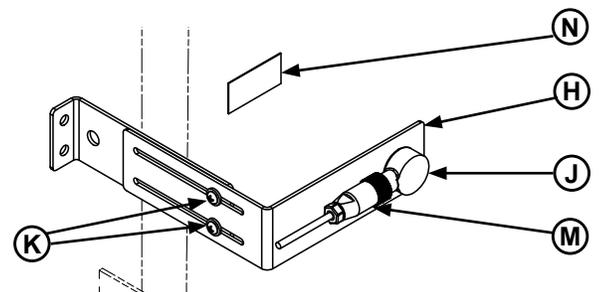

Figure 42
5. With the bracket (**H**) mounted, insert the sensor (**J**) into the bracket with included hardware, as shown in **Figure 42**.